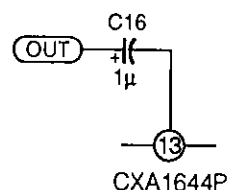

Fig.1
- Fig. 1 shows the polarity of C16 when the DC operating point of the OUT pin is higher than $V_{cc}/2$ of the CXA1644P.
- When the DC operating point of the OUT pin is equal to $V_{cc}/2$ of the CXA1644P, either of Figs. 1 and 2 will do.